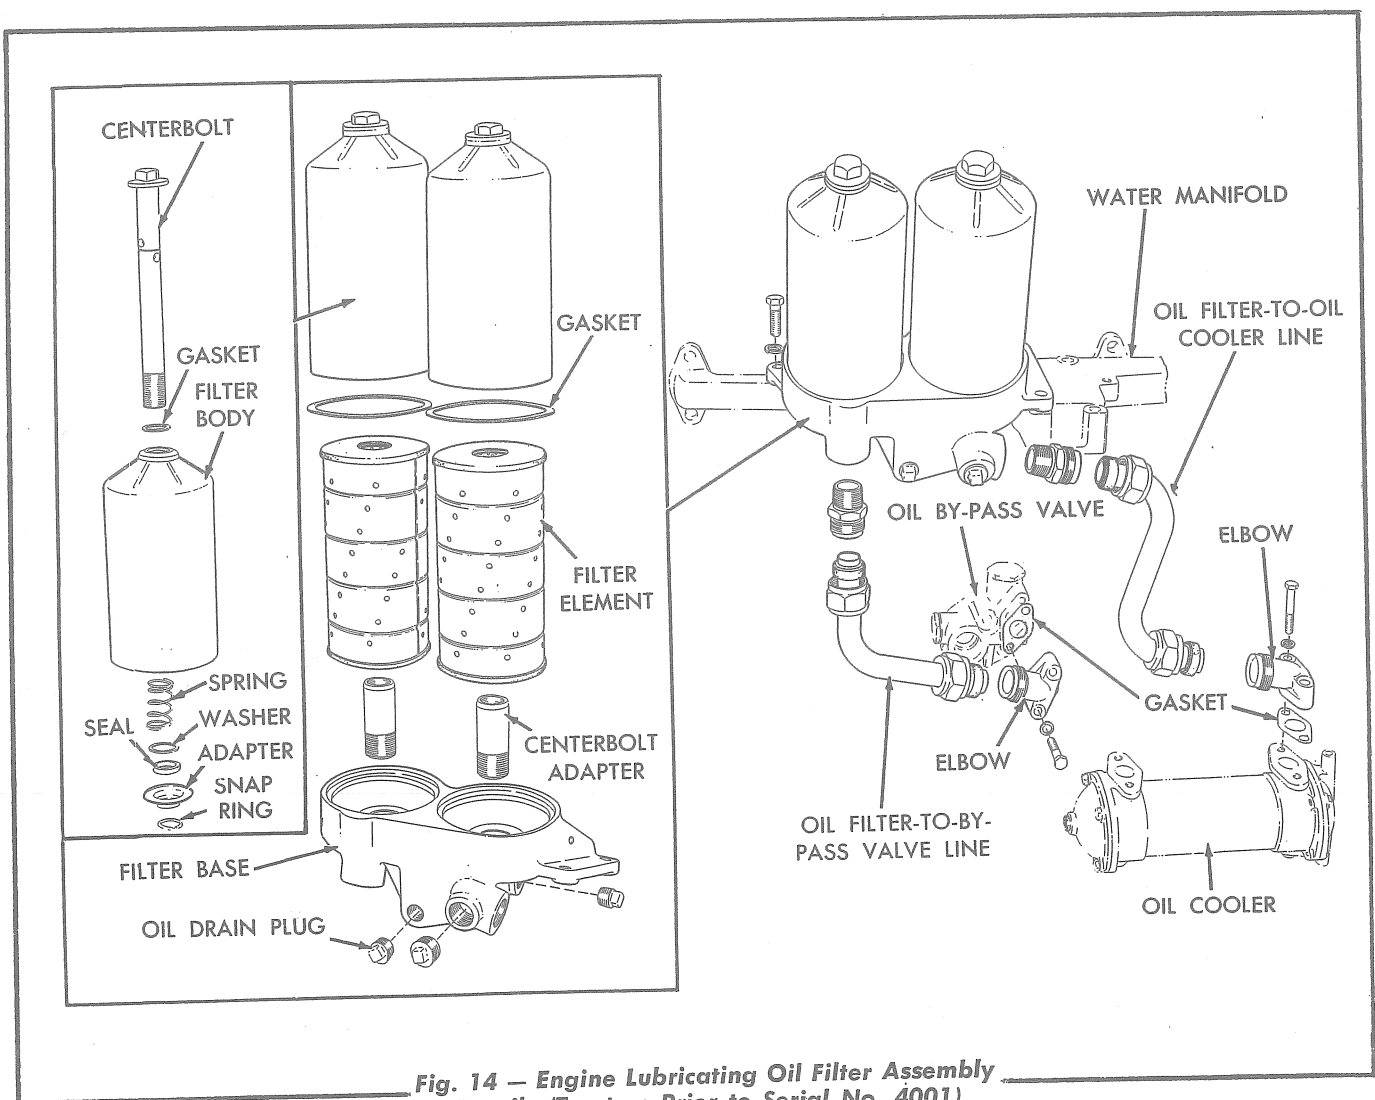

Fig. 14 — Engine Lubricating Oil Filter Assembly
1. Removal and Installation of Engine Lubricating Oil Filters (Tractors Prior to Serial No. 4001) Fig. 14.
- f. Install the filter body assemblies, making certain the body gaskets are properly installed (Figs. 14 and 15), then tighten each filter centerbolt to a torque of 75 to 80 lbs. ft. Install the oil filter drain plug(s) and tighten securely.